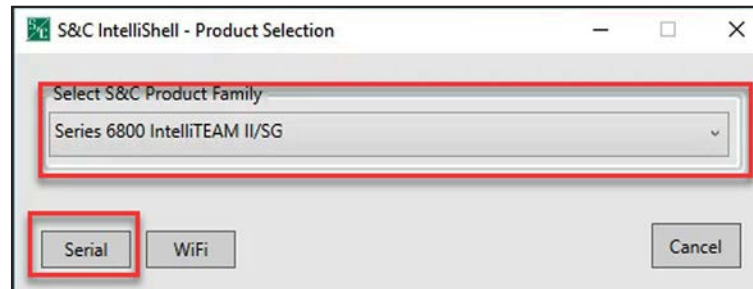

Figure 124. The Product Selection and Serial connection option.
STEP 2. Select the product on which to perform the factory reset and click on the **Serial** button. See Figure 124.